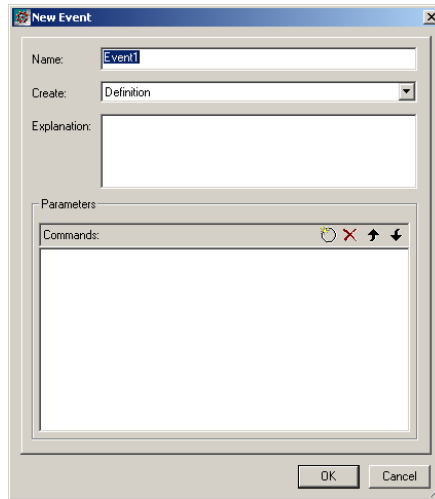

Figure 54: New Event dialog box (Designer)
- 5 In the Element section, click element type to create, for example Event, and click the New button in the Element section. A New Event dialog box is displayed. See *Figure 54*, page 71.